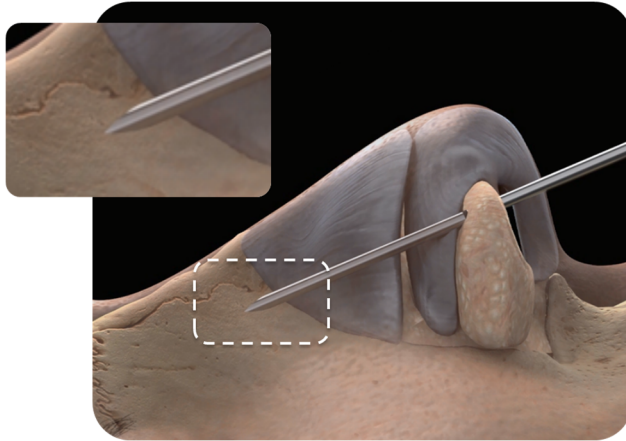

Figure 9: Cannula at target depth mid-thickness within the lateral wall structure.
12. Verify that the cannula is inserted deep enough such that the tip of the cannula is positioned over the maxilla bone. If the nasal tissue has compressed or bunched-up during cannula insertion, relax the tissue to its native position. An example of appropriate cannula position within the nasal lateral wall is shown in **Figure 9** below.